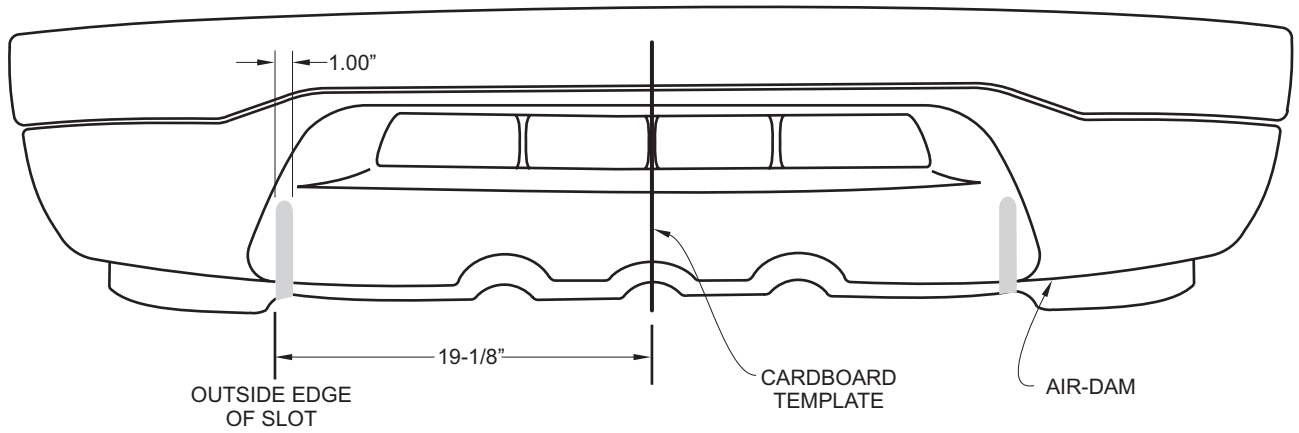

FIGURE 3
- STEP 4. Locate the center point on the top of the air-dam and mark with marker. To locate the bottom center point, look on the back side of the air-dam. There will be a series of small fins. Locate the center one and put a small mark on the lower air-dam. **SEE FIGURE 3.**